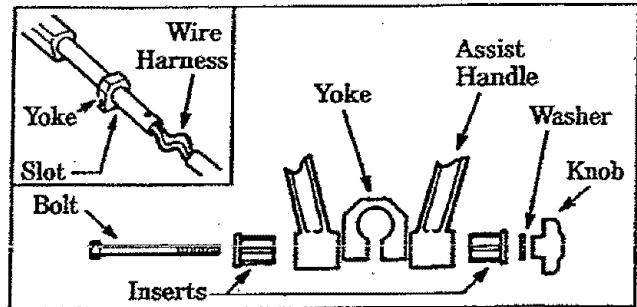

Figure 1
1. Pass the wire harness through the slot in the bottom of the Yoke. Figure 1 (inset).
2. Slide the Yoke onto the Upper Tube as shown in Figure 1 (inset).
3. Place the Assist Handle over the Yoke. Assemble parts as shown in Figure 1.
4. Place the bolt in the Assist Handle. Figure 1. Thread the Knob onto the bolt and tighten until the parts are snug.